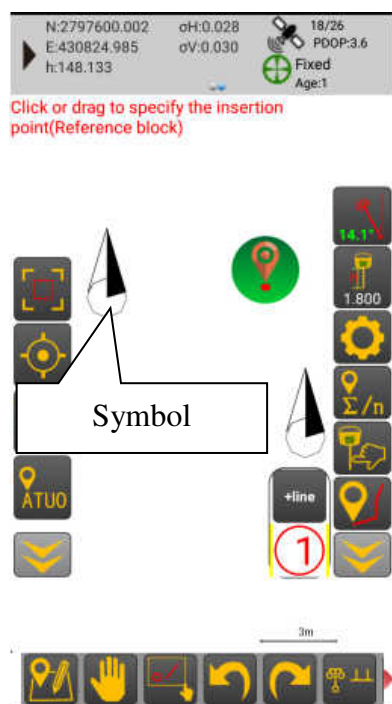

Figure 4-20
1. Do not rotate the point-like features, such as Figure 4-20 of the street lamp, specify an insertion point on the screen to draw the symbol.
2. Rotating point features, such as Figure 4-20 of the wire into the ground. Specify two points on the screen to draw the symbol, the first point is to specify the insertion location, the second point is to determine the direction of the symbol, and specify the direction of the touch screen slide, the symbols are displayed in real time, pop up and touch the specified direction to complete the drawing.